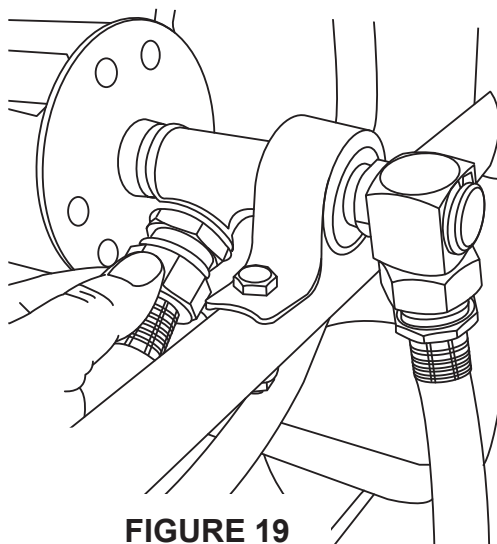

FIGURE 19
19. **Attaching Your Garden Hose:** The 890 is designed to hold up to 200' of 5/8" garden hose. Attach your hose to the brass adapter (on the galvanized tee). Loop the hose over the spool end (as shown) to avoid kinking. **See Figure 19 & 20**